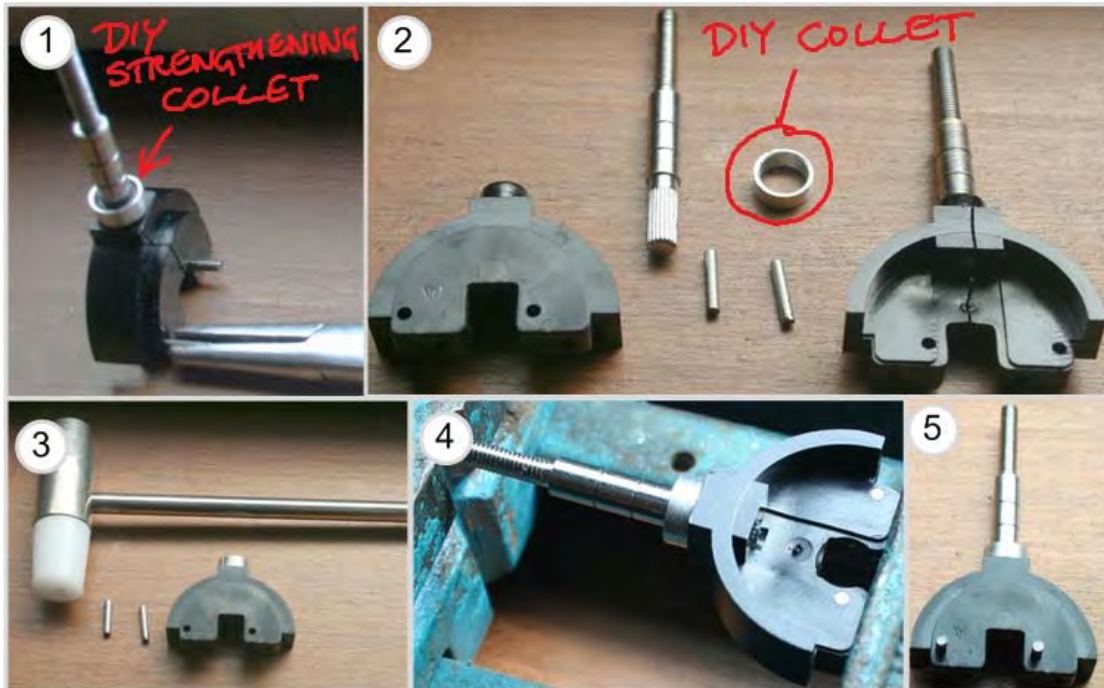

Figure 19 Assembling a new joystick (note: DIY strengthening collet modification)
3. If you are replacing the joysticks assemble the parts as shown in Figure 19. It may well be a good idea to add a strengthening collet (see Section 4.3) to the assembly to prevent future joystick failure as this is a fairly common issue.
2. Carefully inspect the joystick assembly for signs of cracking in components as this is the primary cause of control drift due to POT slippage. Make sure to move the joystick to the extremes and use a small torch to inspect every component. If control drift is evident on the aileron or rudder controls it is highly likely that the joystick is cracked as shown in Figure 19. If any parts are cracked replace them using the procedures in Section 3.5.2 before proceeding.